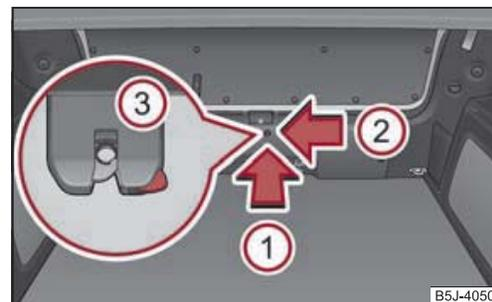

Fig. 29 Emergency unlocking of the boot lid
- Insert a screwdriver or similar tool into the opening in the trim in the direction of arrow ① ⇒ fig. 29 to the stop.
- Unlock the lock ③ under the trim in the direction of arrow ②.